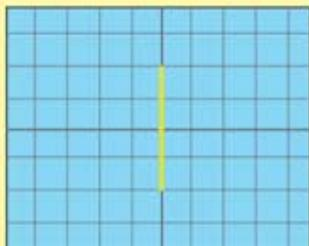

Figure 6.22
14. Repeat steps 10 to 13 but reverse the connection of the terminals of the power supply. Observe and record the trace displayed on the screen as shown in Figure 6.22.